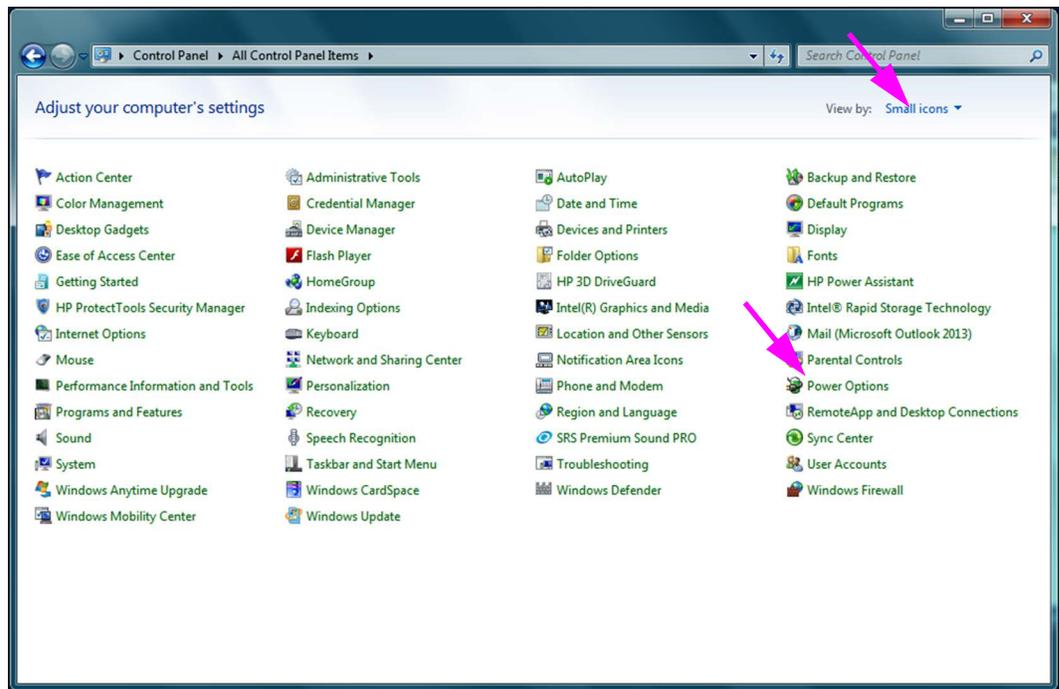

Figure 2-18. All Control Panel Items Window
2. Select **Control Panel**. If the view is set for Small icons, the All Control Panel Items window appears as shown in Figure 2-18. Click on **Power Options**.